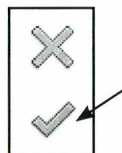

Fig. 04.49.
- Klik *Finish Edit Mode* (Fig. 04.49).